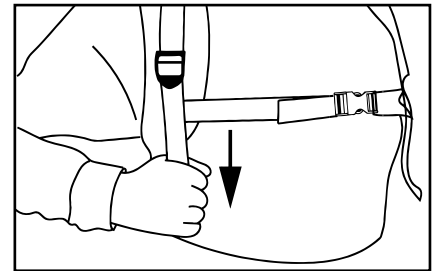

FIGURE 13
6.2 Pull the ends of the backpack straps downward to tighten. **FIGURE 13.**